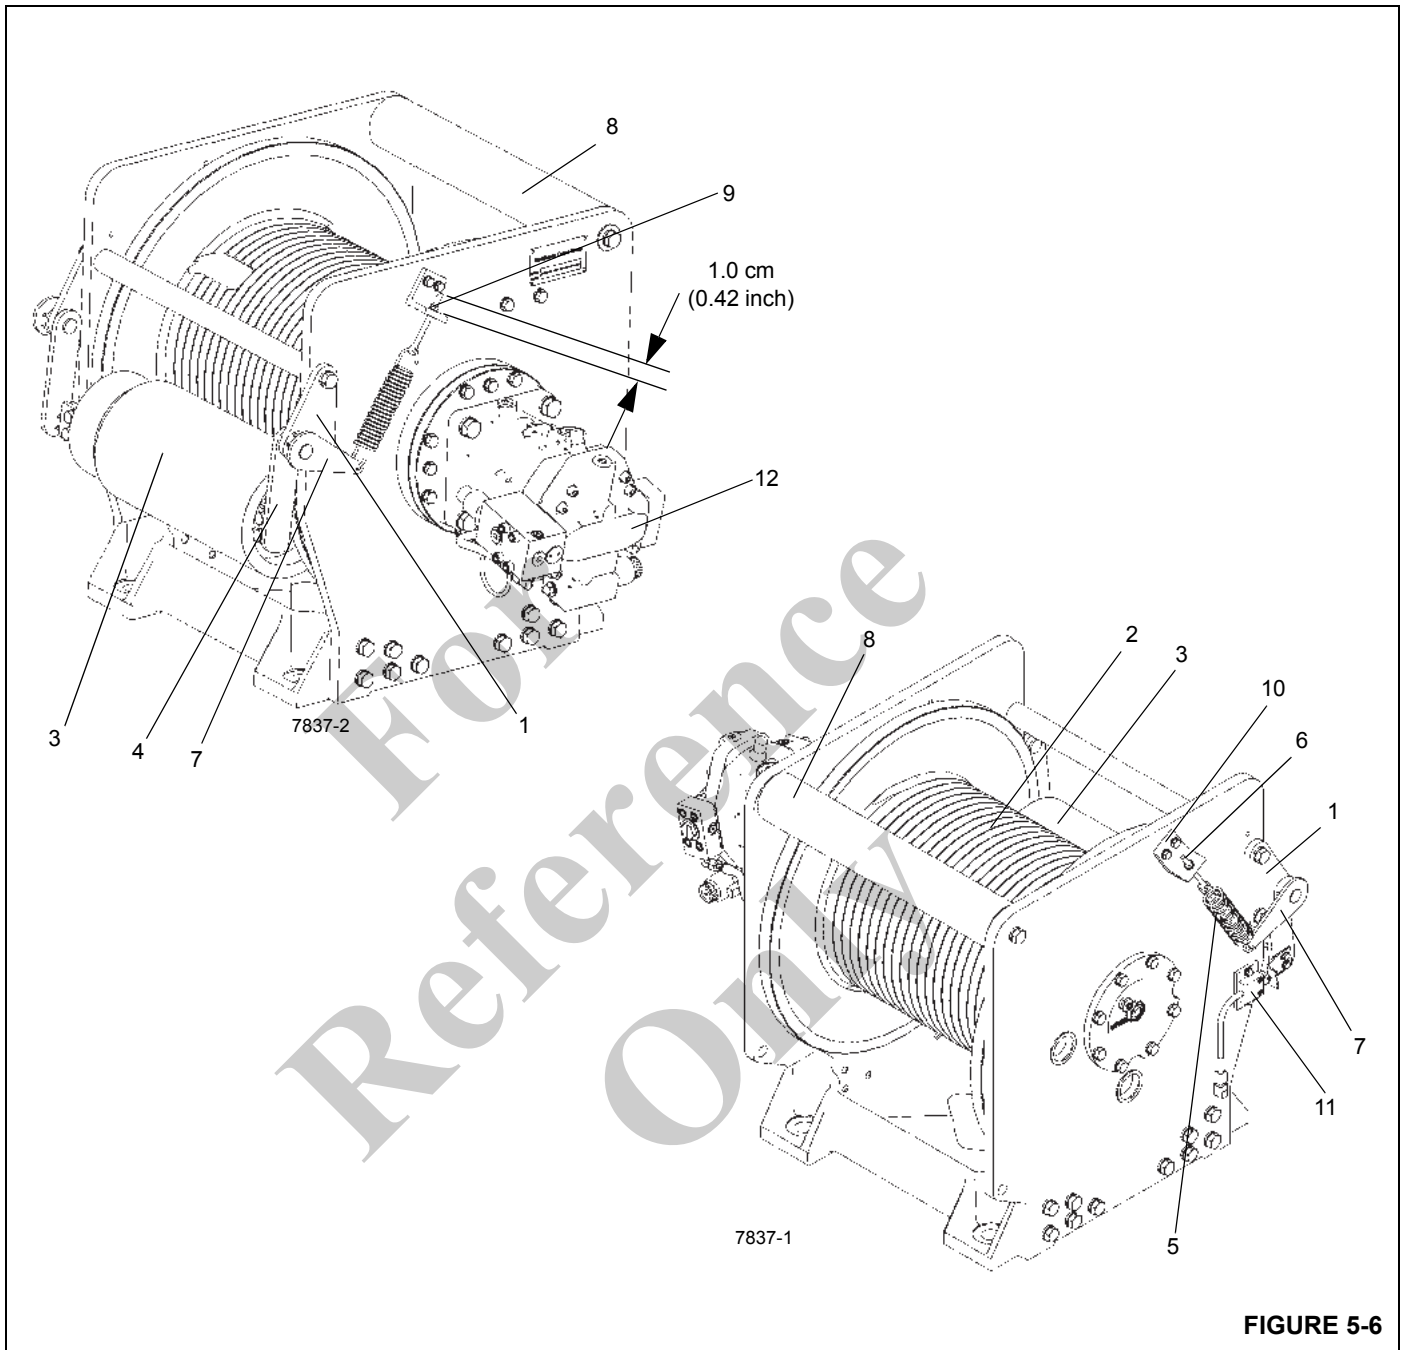

FIGURE 5-6
The main and auxiliary hoists (Figure 5-6) are each equipped with an idler drum on the forward side of the hoist. The main hoist idler drum is used to keep the hoist cable from coming in contact with the boom. When the crane is also equipped with an auxiliary hoist, the idler drum on the auxiliary hoist is used to keep the hoist cable from coming in contact with the main hoist. The cable follower is mounted on the forward side of its respective hoist. The cable follower applies a downward spring pressure against the cable onto the hoist drum, to ensure that the cable will be uniformly wound onto the hoist drum, and also prevent cable from jumping under abnormal line conditions.
1. Remove the bolt and end cap from the right side of the idler roller (Figure 5-6).
1. Loosen the adjusting nuts and remove the tension spring and adjusting rod from both sides of the hoist (Figure 5-6).